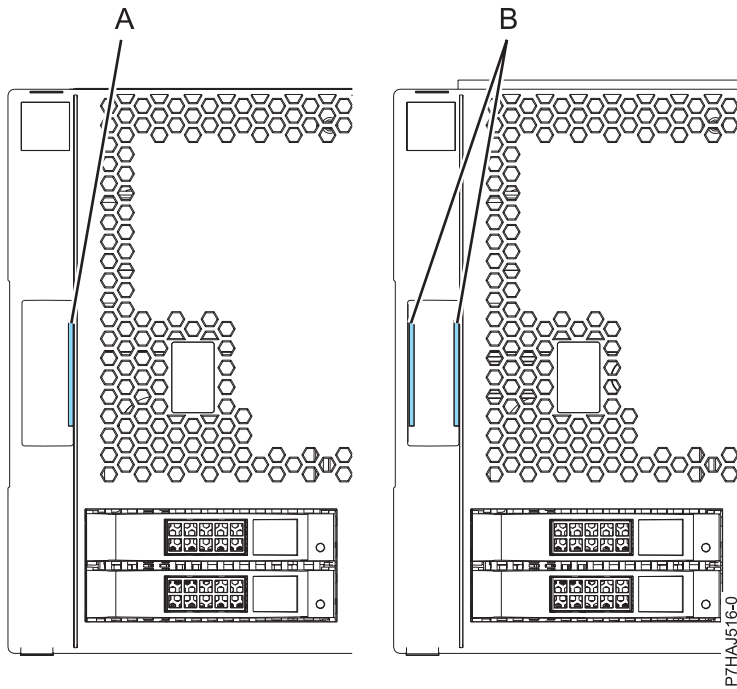

Figure 7. Identifying the older and newer covers
Note: The older covers that were shipped before 1 March 2011 can be identified by a single blue stripe (A) on the cover assembly latches. Newer covers that were shipped after 1 March 2011 have two blue stripes (B) on the cover assembly latches. See Figure 7 on page 23.